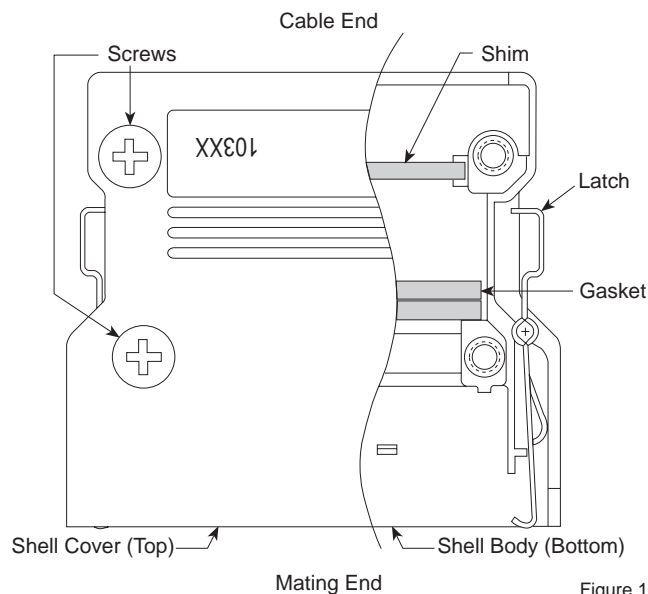
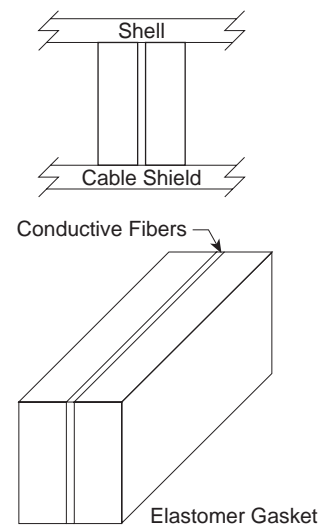

Figure 1
Figure 2
1. Taking the shell body (thicker of the two pieces), mount both latches into the proper slots (See Figure 1).
3. Place a gasket into the area just behind the front screw holes, as far forward as possible (see location as shown in Figure 1). **Caution: It is essential for proper performance that the gasket be oriented so the conductive fibers are making contact between the shell and the pleated foil cable shield** (see Figure 2).